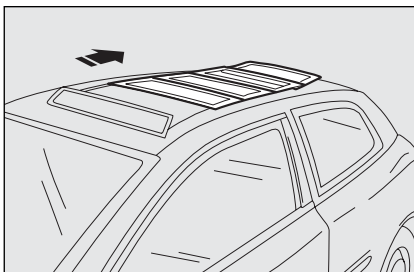

fig. 79
- ☐ Second knob click: complete opening of the first blade and movement of the other ones towards the rear part **fig. 79** together with movement of the sun curtain.